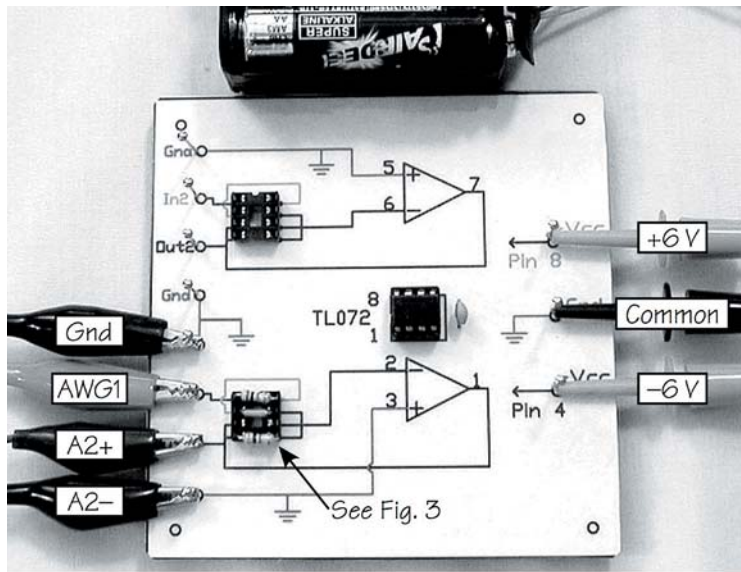
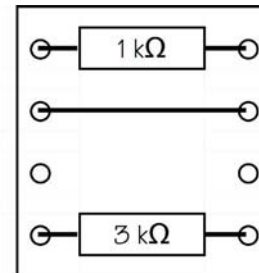

Fig. 2—Op-amp board with connections
Fig. 3—Input and output resistors
1. Power the board (see Fig. 2, next page). Be sure to do this right the first time or you'll release the magic smoke and kill the op-amp chip! If you are not certain which leads are which on the battery pack, use your DMM to check them.
2. Populate the bottom eight-pin socket (Fig. 2) as shown in Fig. 3. These two resistors and the jumper will set the op-amp inverter's d-c gain.
3. Connect the leads from the IO Board as shown in the photograph (Fig. 2).